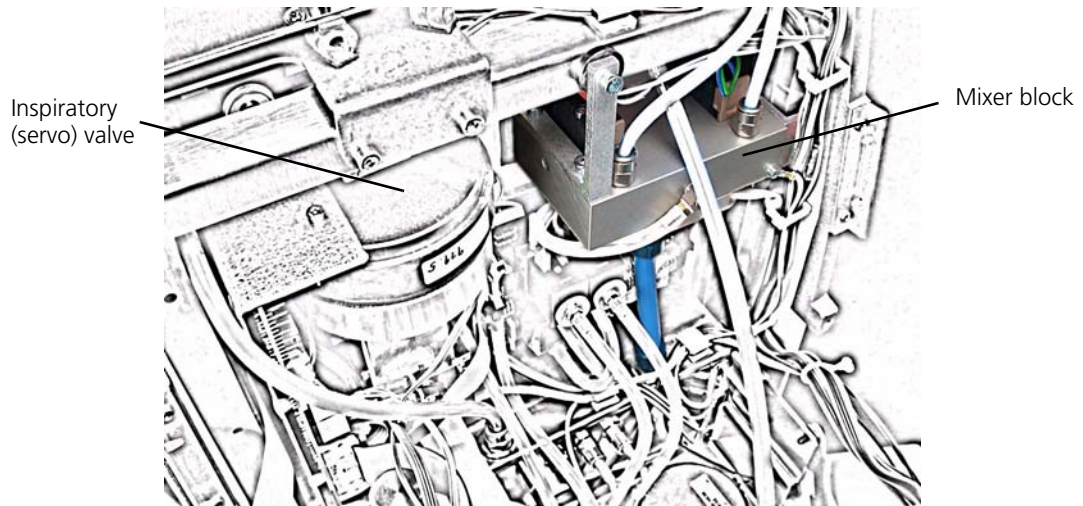

Figure 11-147. Position of mixer block (PN 155333) from inside GALILEO
There are two models of mixer block: old, PN 155333, and new, PN 155587. Both models are screwed to the chassis, inside the rear enclosure, as shown in Figure 11-147.
3. Locate the mixer. (Figure 11-147 on page 11-136.)
4. If you want to replace only the mixer valves, go to step (5).